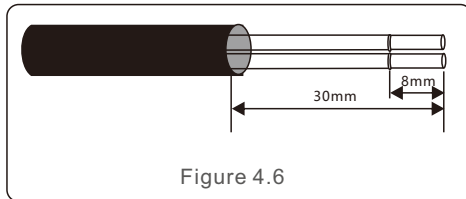

Figure 4.6
- Strip the insulation and shield to a suitable length. Use diagram below as a guide. (see Figure 4.6).